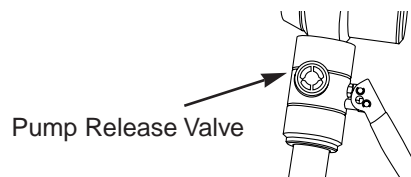

Figure 5
5. Close the pump release valve by turning it clockwise (Figure 5). Hold the punch set in position, work the pump handle until the punch completely penetrates the metal.